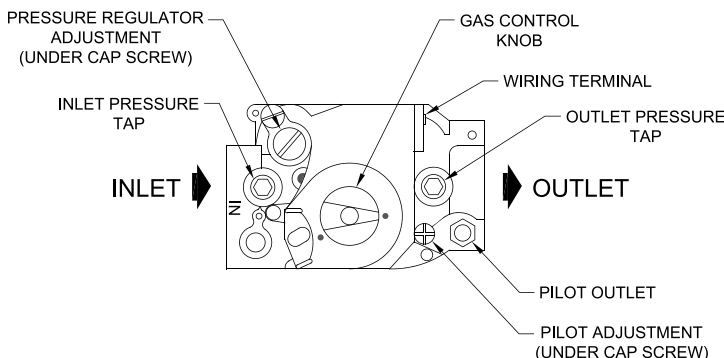

Figure 9-3: Top View of Gas Valves
- 2. PURGE AIR FROM GAS PIPING by loosening (or removing) "Inlet Pressure Tap" plug on gas valve (See Figure 9-3). Tighten (or replace) plug when you start to smell gas. Adequate ventilation must be provided and no smoking or open flame permitted.
1. Install manometer on 1/8" outlet pressure tap on gas valve (see Figure 9-3). Use of shutoff valve between manometer and gas